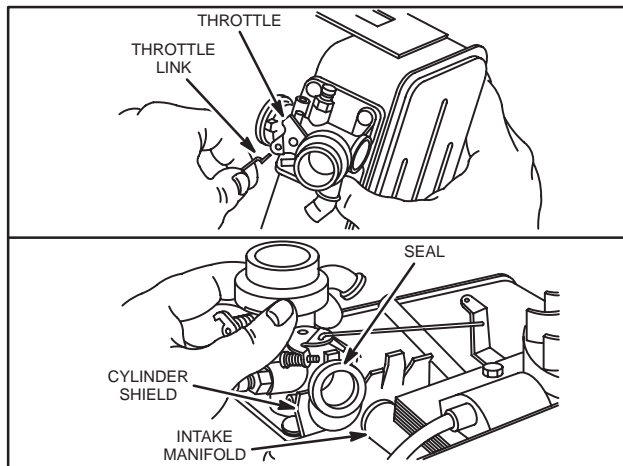

Fig. 223 – REMOVING CARBURETOR
3. Slip carburetor over notch in cylinder shield and away from intake manifold, Fig. 223. Rotate carburetor and tank assembly to disconnect governor link from throttle lever.